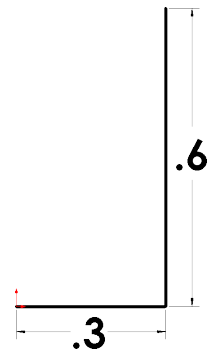

Fig. 3
Step 5. Click **Smart Dimension**  (S) on the Sketch toolbar.
Step 6. Dimension the lines as shown in **Fig. 3**.